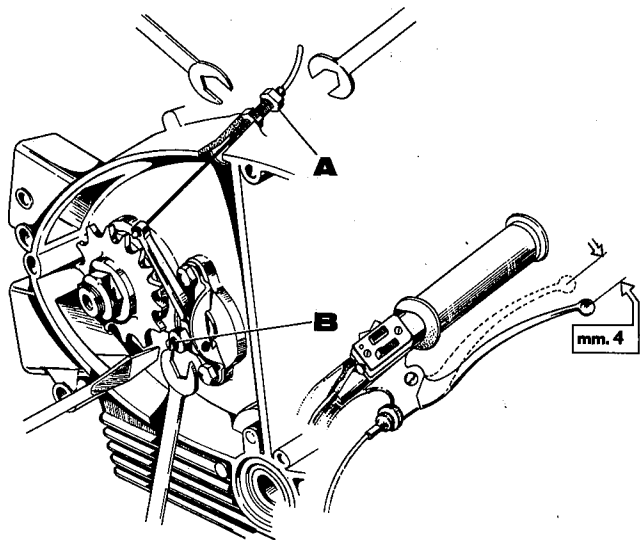

Fig. 20
4. Adjusting the clutch (see fig. 20).